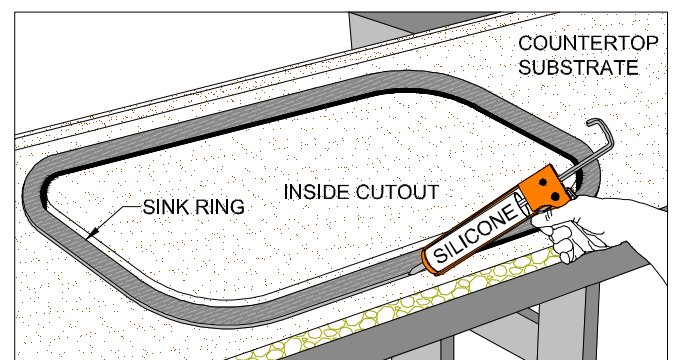

Figure 3D
- Fill gap between sink rim and substrate with 100% silicone. (FIG. 3D)